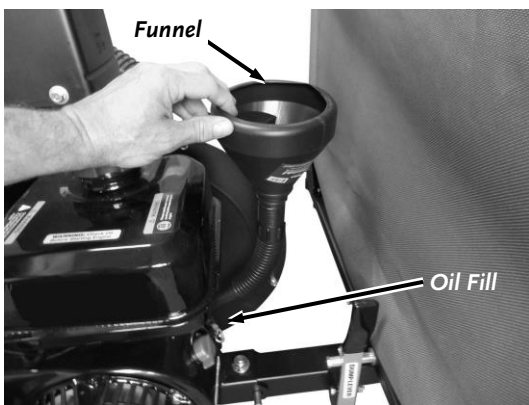

Figure 62
3. Remove the dipstick and add about half the quantity of the oil recommended by the Engine Manufacturer (refer to your Engine Owner's Manual for recommended quantities), and wait one minute for the oil to settle (**Figure 62**).